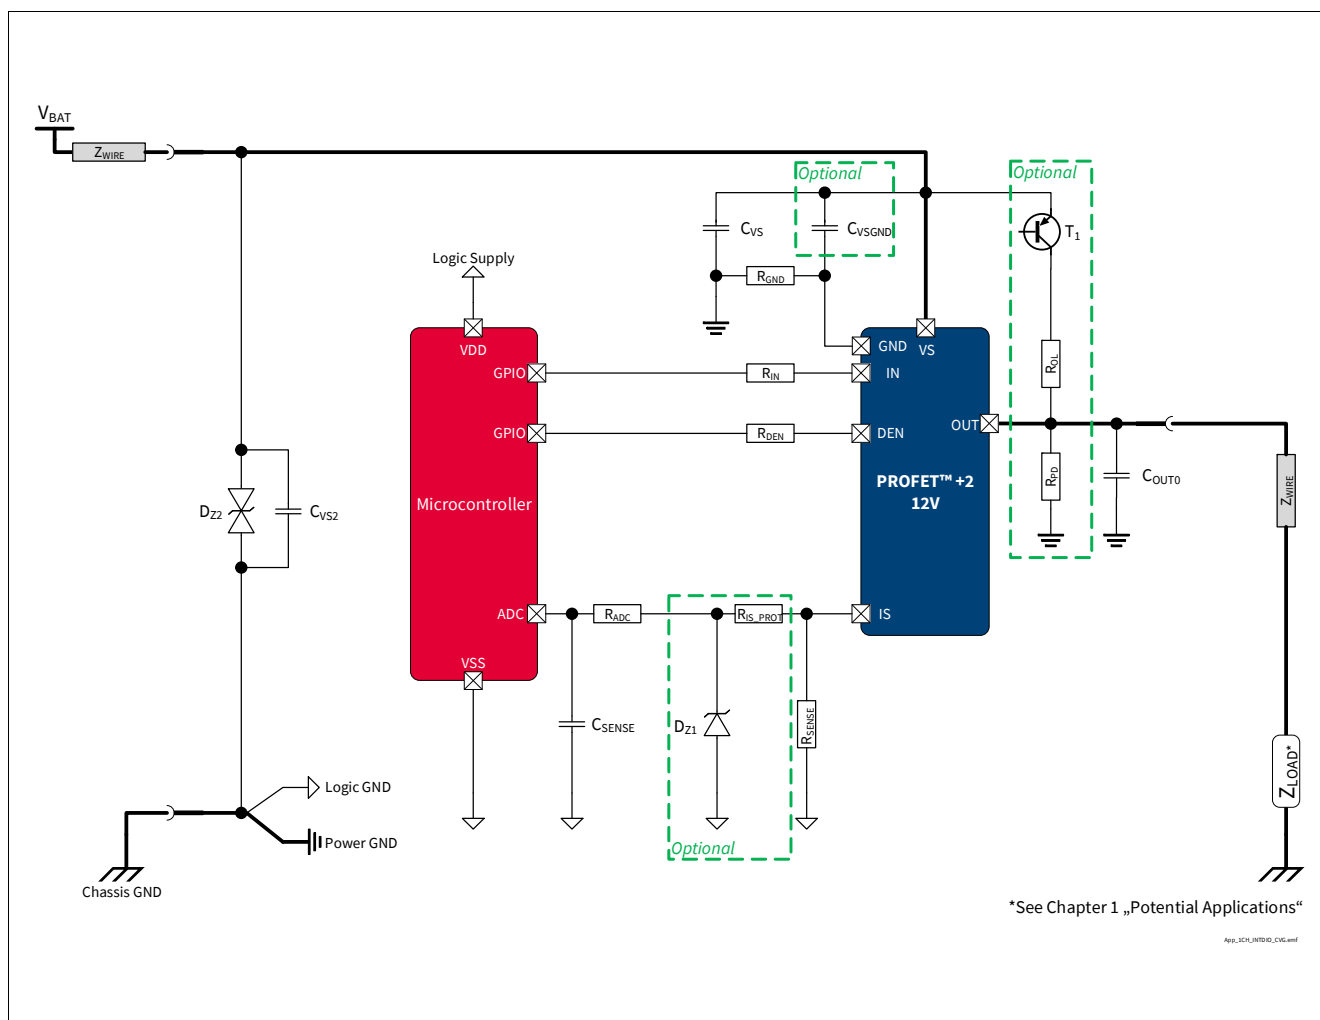

Figure 37 BTS7006-1EPP Application Diagram
1.10 , 2020-12-14	<p>Typo fixed (PROFET™+2 → PROFET™ +2)</p> <p>Figure 1, Figure 16, Figure 17, Figure 18, Figure 20, Figure 21, Figure 22, Figure 25, Figure 29, Figure 30, Figure 34, Figure 37 updated</p> <p>Chapter 1, Chapter 6.1, Chapter 6.1.3, Chapter 6.1.4, Chapter 8.2, Chapter 9.2.2 updated</p> <p>Chapter 8.4.1 updated (typo fixed)</p> <p>P_7.4.5.1, P_7.4.5.2, P_7.4.5.3, P_7.4.5.4, P_7.4.5.6, P_7.4.5.7 updated (added in Note or Test Condition: See Figure 15)</p> <p>P_8.6.4.1 updated (added in Note or Test Condition: See Figure 26)</p> <p>P_8.6.4.2 updated (added in Note or Test Condition: See Figure 27)</p> <p>P_9.6.0.6 updated (Parameter: SENSE Operative Range for k_{ILIS} Operation ($V_S - V_{IS}$) → Saturation Voltage in k_{ILIS} Operation ($V_S - V_{IS}$))</p> <p>P_9.6.0.7 updated (Parameter: SENSE Operative Range for Open Load at OFF Diagnosis ($V_S - V_{IS}$) → Saturation Voltage in Open Load at OFF Diagnosis ($V_S - V_{IS}$))</p> <p>P_9.6.0.8 updated (Parameter: SENSE Operative Range for Fault Diagnosis ($V_S - V_{IS}$) → Saturation Voltage in Fault Diagnosis ($V_S - V_{IS}$))</p>
1.04 , 2019-10-15	<p>P_8.7.12.1, P_8.7.12.7, P_8.7.12.8 updated (added in Note or Test Condition: link to Figure 24)</p> <p>P_7.5.12.5 updated (added in Note or Test Condition: see Figure 18)</p> <p>P_7.5.12.12 updated (added in Note or Test Condition: see Figure 20; deleted unnecessary space in Symbol: $dV_{OUT} / dt \rightarrow dV_{OUT} / dt$)</p> <p>P_8.7.12.6 updated (added in Note or Test Condition: see Figure 25)</p> <p>P_9.7.12.1 updated (added in Note or Test Condition: see Figure 32)</p> <p>Figure 1, Figure 37 updated</p> <p>P_4.3.0.7 added</p> <p>Table 22 updated</p> <p>Chapter 5.1 updated (added: see Chapter 10 for the complete application setup overview)</p> <p>Chapter 9.2 updated ($2 V \rightarrow V_{DS(OLOFF)}$)</p> <p>General: updated (ReverSave™ → ReverseON)</p>
1.01 , 2018-06-14	<p>Page numbering corrected</p> <p>Figure Application Diagram, Figure 29, Figure 37 updated</p>